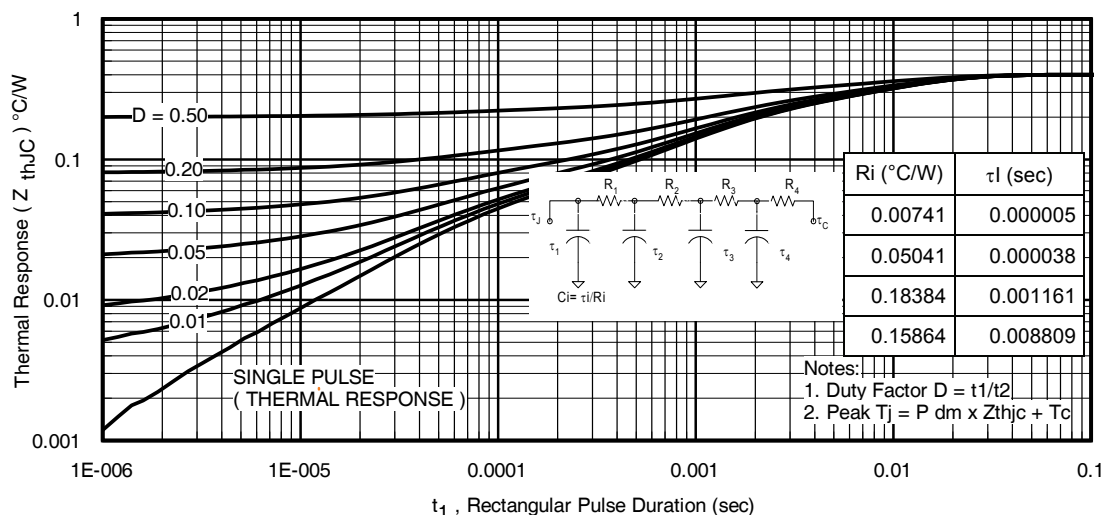

Fig 13. Maximum Effective Transient Thermal Impedance, Junction-to-Case
7. ΔT = Allowable rise in junction temperature, not to exceed T_{Jmax} (assumed as 25°C in Figure 13, 14).
$Z_{thjc}(D, t_{av})$ = Transient thermal resistance, see Figures 13)